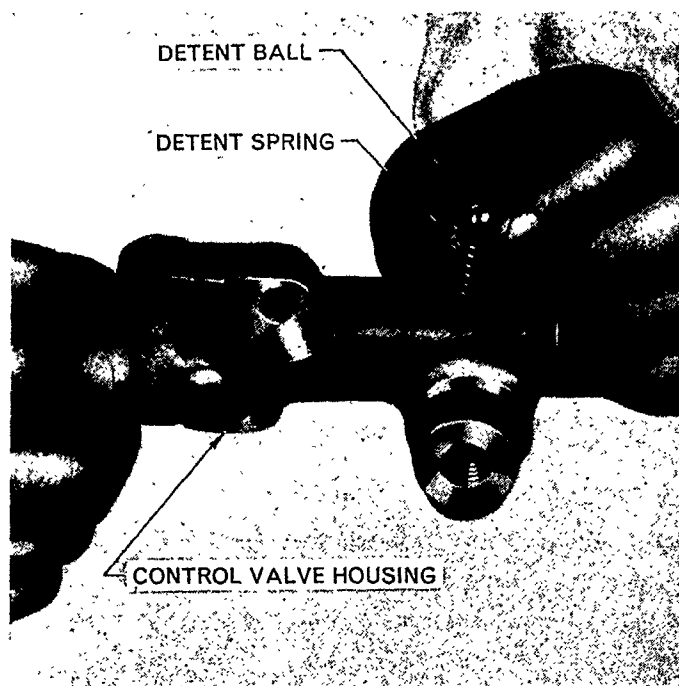

Figure 11
3. Install the detent spring and ball into the control valve body, Figure 11.